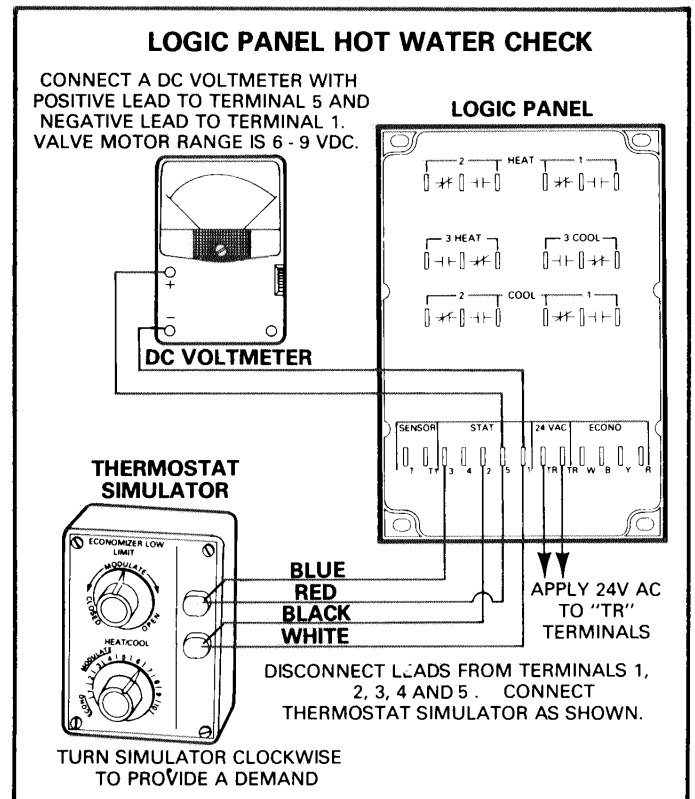

FIGURE 28
- 1 - Connect a DV voltmeter with positive lead to terminal 5 and negative lead to terminal 1. See Figure 28.